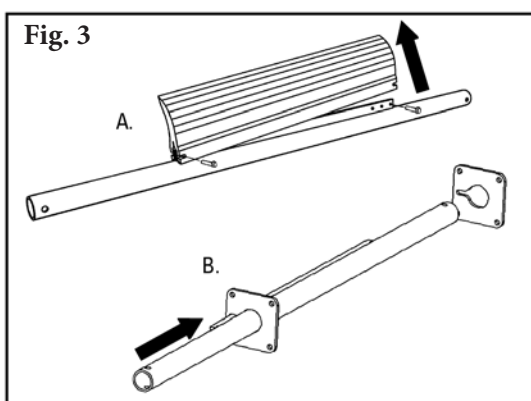

Fig. 3
4. **Install the pole.** Remove both blade pins and blade from the pole and insert the pole in through the mounting plates (Fig. 3).
3. **Install the new blade.** Slide the new blade onto the pole, locking it into the far blade pin, then reinstall the removed blade pin, washer and clip (Fig. 3).